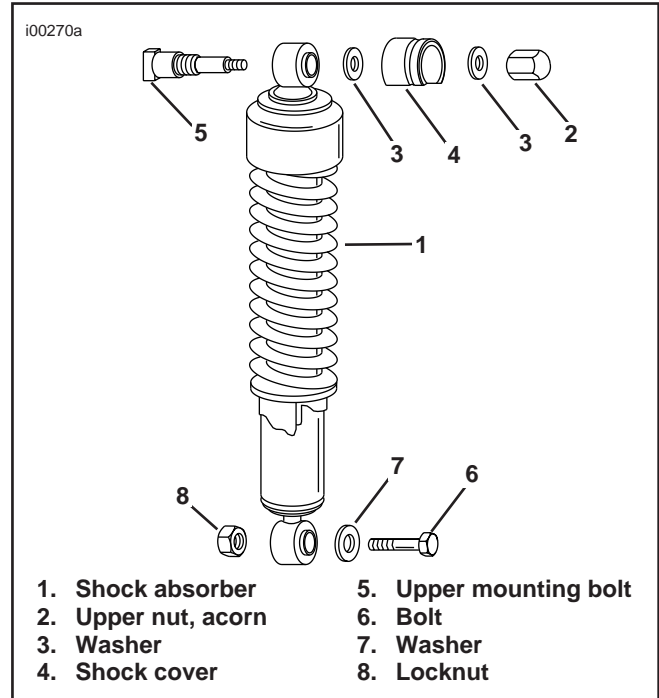

Figure 1. Shock Absorber Removal Hugger Models Only
4. See Figure 1. With rear fender and frame securely supported, remove left and right shocks by removing upper nut (2), washer(s) (3) and shock cover (4). Remove bolt (6), washer (7) and locknut (8) at lower shock mount. Remove shock.
5. Install long 4-1/2 in. bolt (1) from kit, from inside of fender out through rear holes where button head screws were removed in Step 3.
6. Reinstall shocks using original hardware. Torque acorn nut (2) to 21 -35 ft-lbs. Torque locknut (8) to 30 - 50 ft-lbs.